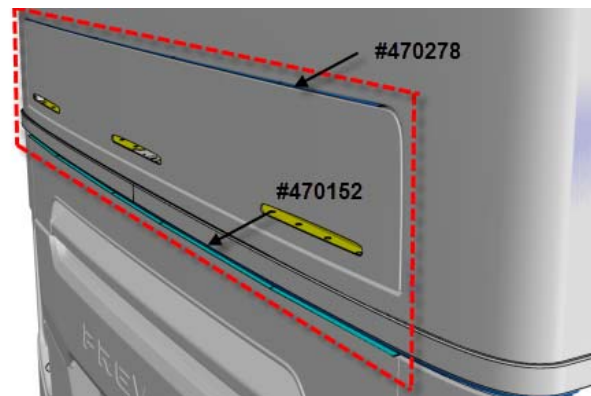

FIGURE 40
2. See on FIGURE 40 where each drip edge will be positioned. The drip edges will be fastened on the vehicle body, **not on** the ATS access hatch.
5. Clean dirt on the area located right above the ATS access hatch and the area where the lower drip edge will be installed (FIGURE 40). It is very important to install the drip edges on a clean surface to ensure water tightness.